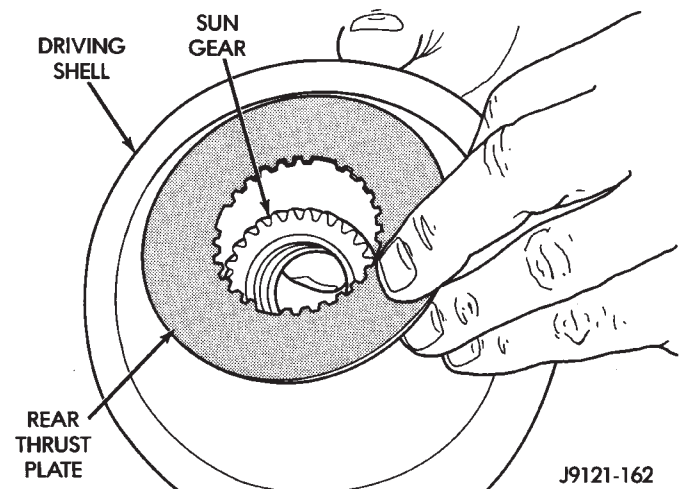

Fig. 75 Installing Sun Gear And Rear Thrust Plate In Driving Shell
(9) Insert sun gear into driving shell (Fig. 75).
(10) Hold sun gear in position and install rear thrust plate. Plate goes over sun gear at rear of driving shell (Fig. 75).